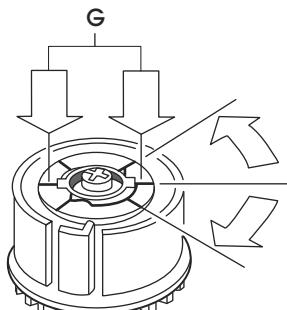

Figure 7
3. Press down (G) black center tension adjuster. Turn (H) clockwise to tighten the tension of the liner. Turn (I) to loosen. (See Figure 7)